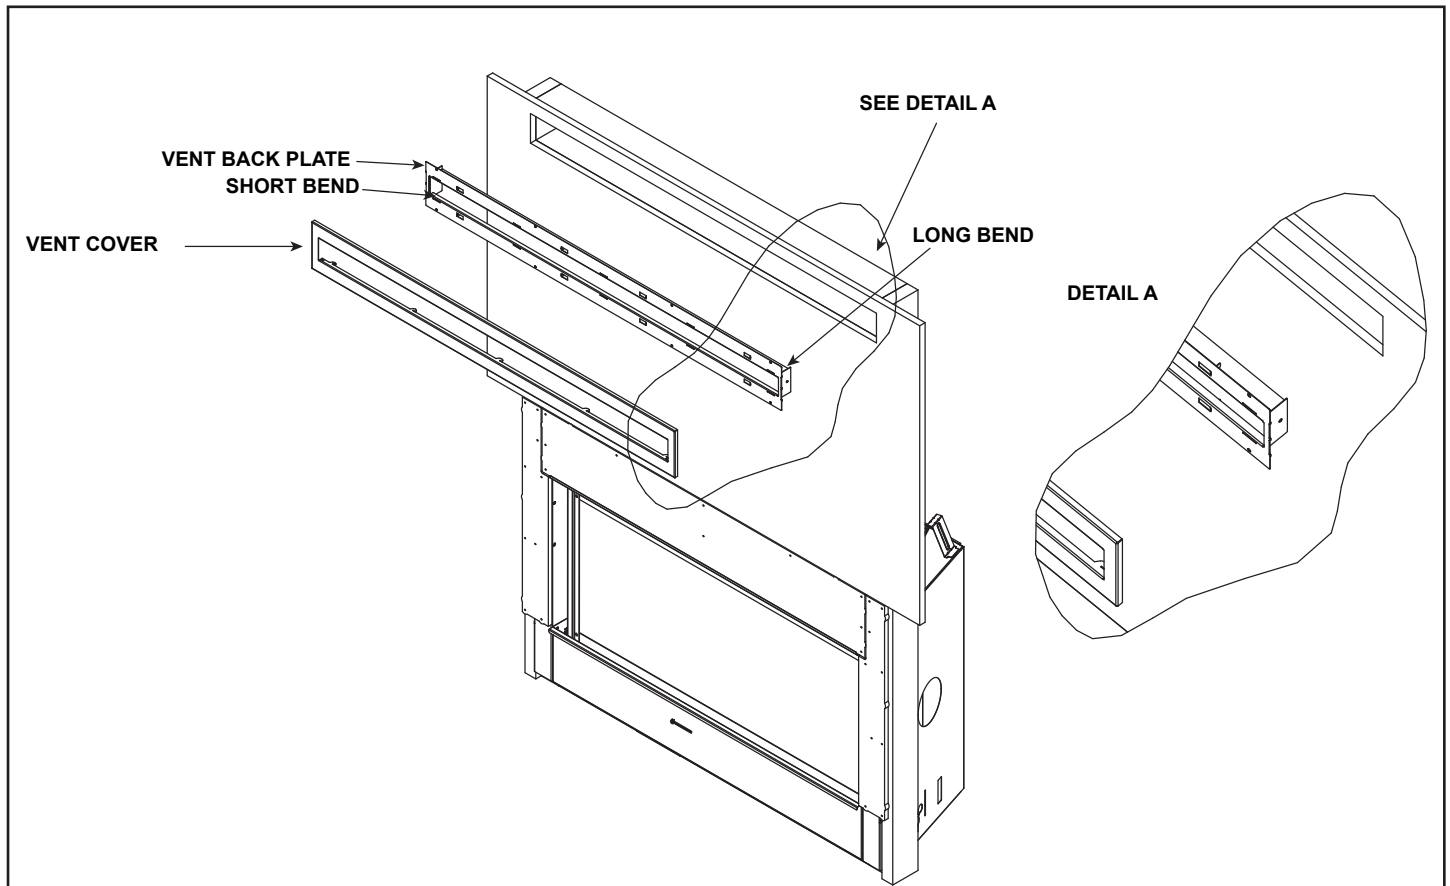

Figure 2 Orientation of Back Plate Bends
2. Install the vent back plate with the bends oriented toward the wall and the longest bend on top. Attach the vent back plate to the wall using eight screws. See Figures 2, 4 and 5.